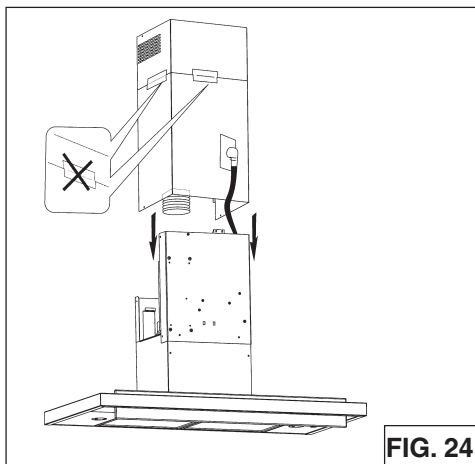

FIG. 24
9. Plug power cord into wall outlet.10. Remove tape from flues and lower into position on the hood (Fig.24).